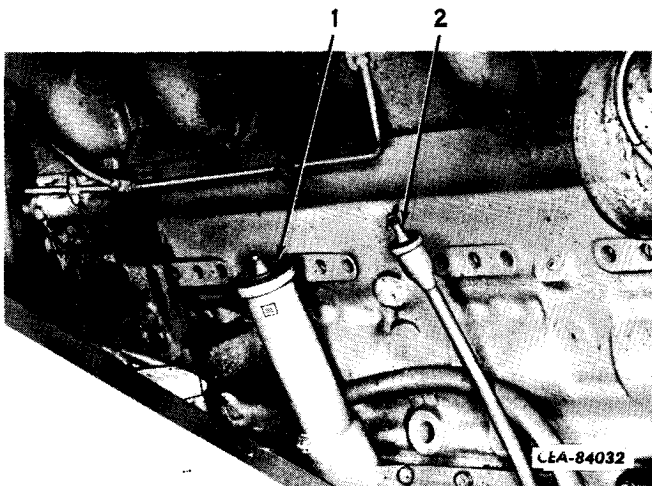

Figure 5-6A Check and Fill
The engine oil level is checked by using the engine dipstick located on the left side of the engine. (Figure 5-6A Item 2.) You add oil through the fill pipe located next to the dipstick (Figure 5-6A Item 1). Refer to Lubrication Chart for correct type of oil.
The crankcase dipstick is marked with high (H) and low (L) level marks so the crankcase oil supply can be estimated. (See Figures 5-6A, Item 2.)